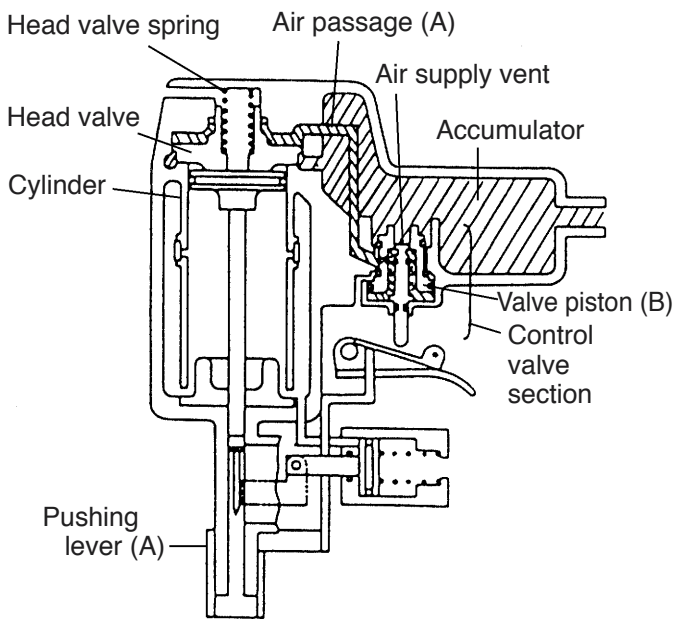

Fig. 8 Prior to nailing
(1) Prior to nailing (See Fig. 8.)